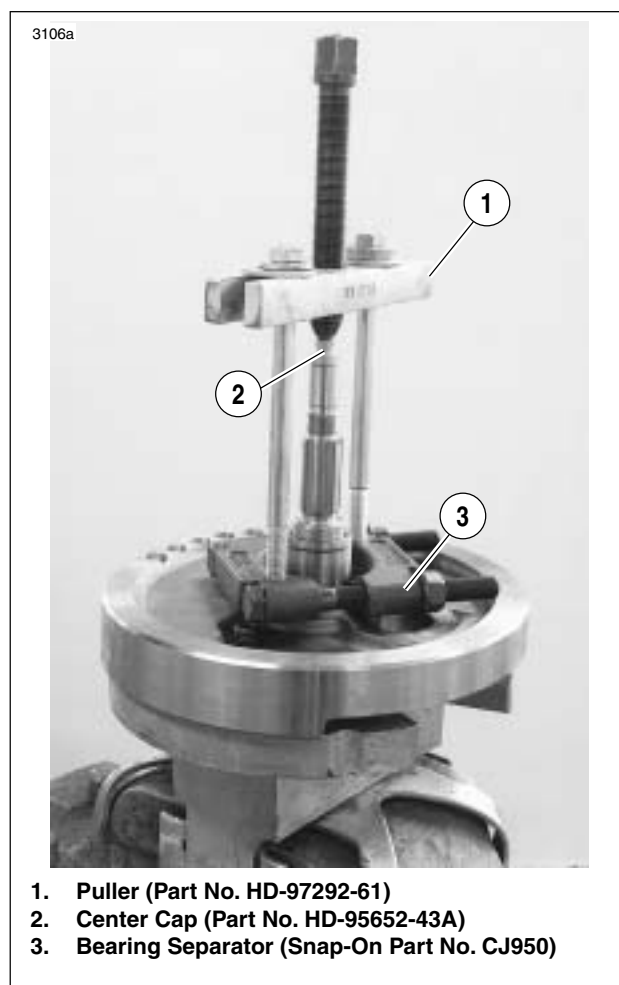

Figure 3-86. Pulling Pinion Shaft Inner Race (Typical)
See Figure 3-86. To remove pinion shaft inner race, use TWO CLAW PULLER (Part No. HD-97292-61), CENTER CAP (Part HD-95652-43A), and BEARING SEPARATOR (SNAP-ON TOOLS Stock No. CJ950). Apply heat to race to aid removal. Four sizes of pinion bearings are available. Pinion bearing selection at the factory, during engine rebuild, or replacement of crankcase set or flywheel assembly is based on the largest measured outside diameter (OD) of the inner race and the smallest measured inside diameter (ID) of the outer race (crankcase bushing). A running clearance of 0.0002-0.0008 in. (0.0051-0.0203 mm) is established during crankcase set or flywheel assembly replacement and engine rebuild.
7. See Figure 3-86. Pull inner race from pinion shaft using TWO CLAW PULLER (Part No. HD-97292-61), CENTER CAP (Part No. HD-95652-43A), and BEARING SEPARATOR (SNAP-ON TOOLS Stock No. CJ950). Apply heat to race to aid removal.